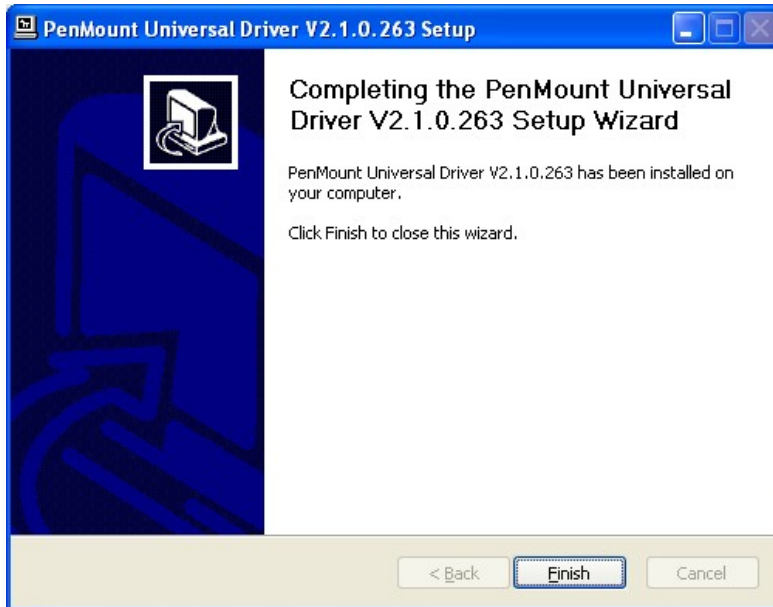

Figure 6-25: Touch Screen Driver Update Complete
Step 12: When the installation is complete, click **FINISH** to exit setup. (Figure 6-25).